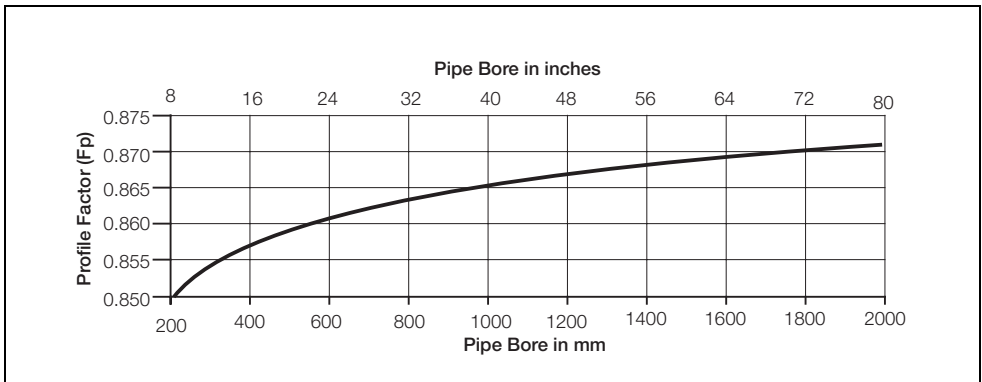

Fig. 4.1 Profile Factor vs Velocity for Pipe Sizes 200 to 2000mm (8in to 80in)
2. Determine the profile factor Fp from Fig. 4.1.
Fp = 0.861 (derived from Fig. 4.1)